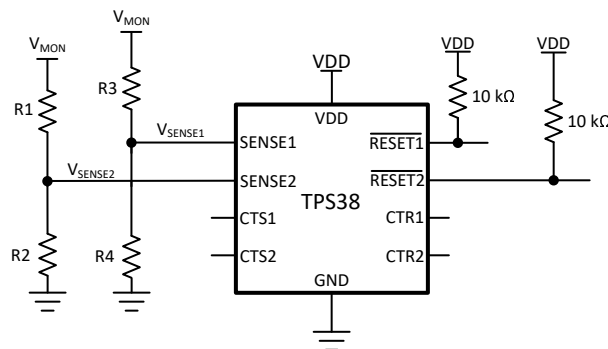

图 8-10. Adjustable Voltage Threshold with External Resistor Dividers
For example, consider a 12 V rail being monitored V_{MON} for undervoltage (UV) using channel 1 of the TPS38A010122DSKR variant. Using 式 7 and shown in 图 8-10, R_1 is the top resistor of the resistor divider that is between V_{MON} and V_{SENSE2} , R_2 is the bottom resistor that is between V_{SENSE2} and GND, V_{MON} is the voltage rail that is being monitored and V_{SENSE2} is the input threshold voltage. The monitored UV threshold, denoted as V_{MON-} , where the device will assert a reset signal occurs when $V_{SENSE2} = V_{IT-(UV)}$ or, for this example, $V_{MON-} = 10.8V$ which is 90% from 12 V. Using 式 7 and assuming $R_2 = 10k\Omega$, R_1 can be calculated shown in 式 8 where I_{R1} is represented in 式 9: